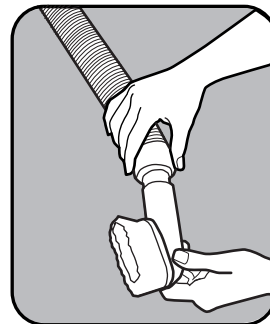
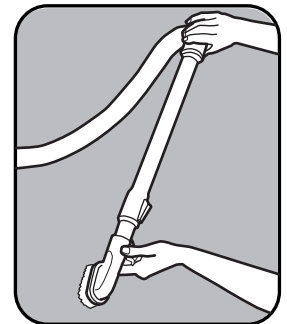

Fig. 4
Fig. 5
2. Attach any of the on-board tools to the end of the wand or directly onto the hose cuff (Fig. 4) and (Fig. 5).